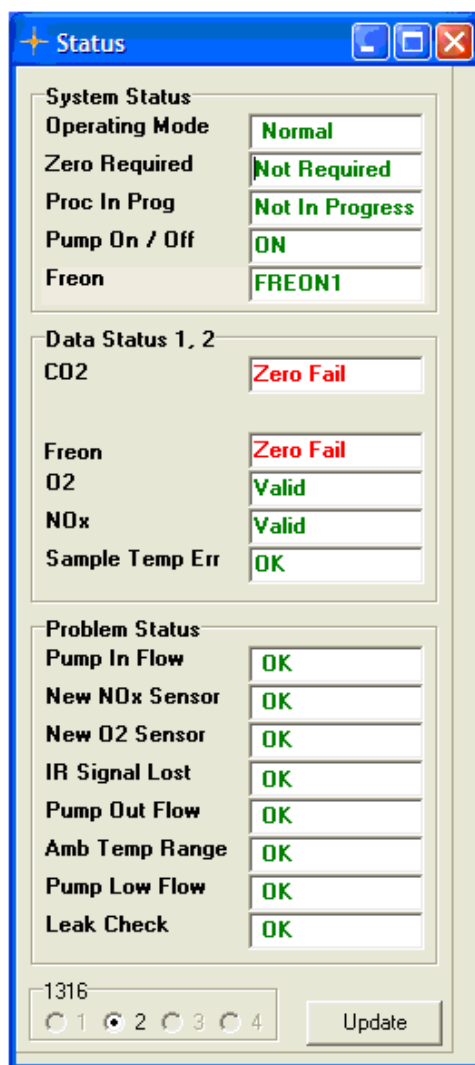

Figure 4.7. The Status Window displaying Zero failed.
4. If the CO2 or Freon channel gain cannot be set (e.g., the IR signal is too strong), the following warnings occur.(see figure 4.7).
5. If the reference channel gain cannot be set, the following warnings occur( see figure 4.7).